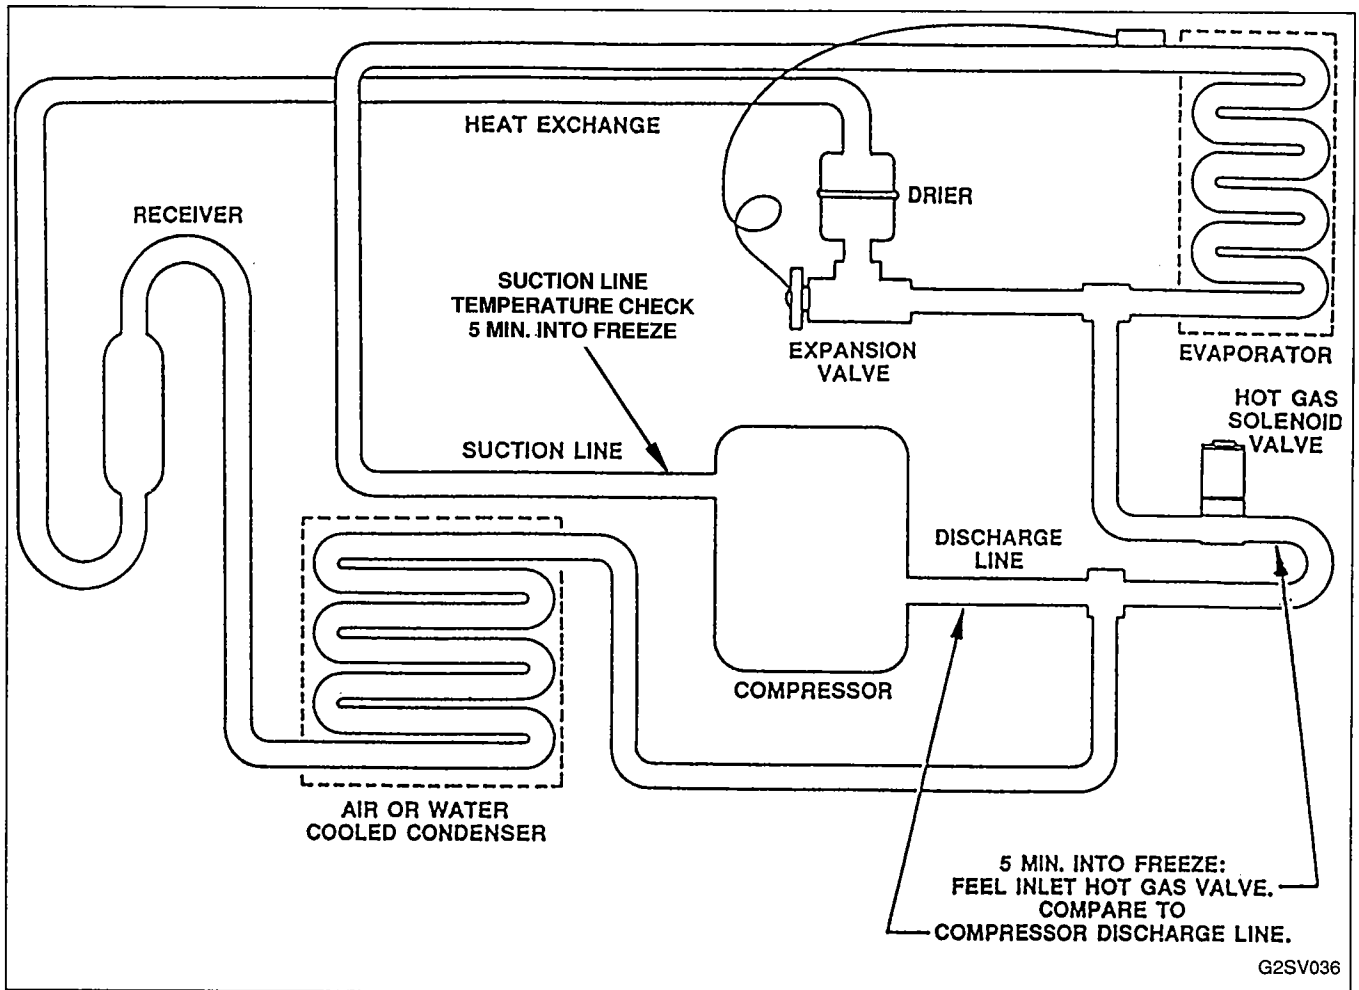

FIGURE 36. HOT GAS VALVE INLET FEEL CHECK/SUCTION LINE TEMPERATURE CHECK
- 1) Feel **hot gas valve inlet**, Figure 36, page 43, after 5 minutes into freeze cycle.
(Figure 36, page 43).**